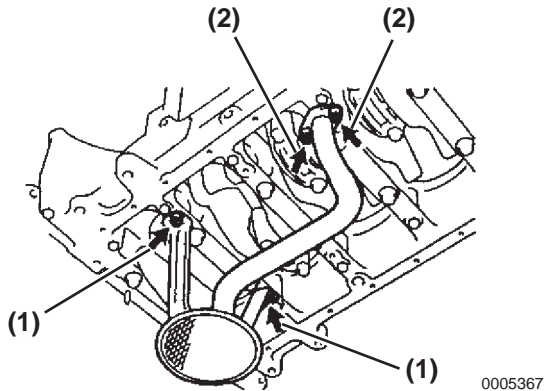

Figure 8-15
1. Using a new gasket install the oil strainer with the nuts (**Figure 8-15, (1)**) and bolts (**Figure 8-15, (2)**) and torque to 90 kgf·cm, 8.83 N·m (78.1 lb-in.).